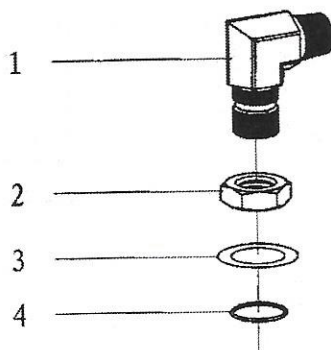

Fig.16
13. Bend sub (1 5/16-12UN) (Fig16, Table 13)